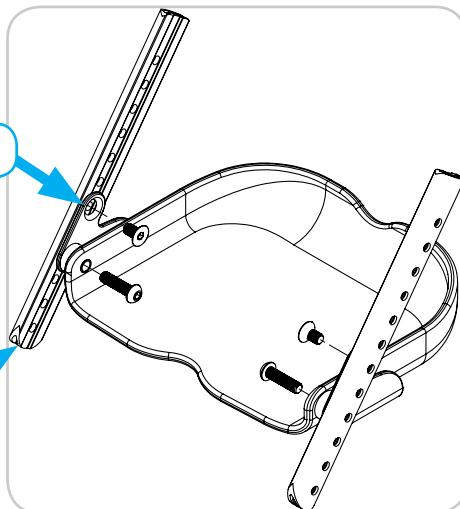

Figure 19
2. Install longer extensions as shown in Figure 19.